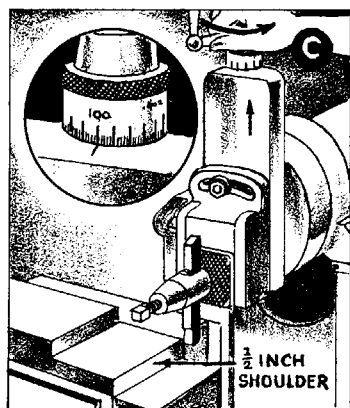

FIG. 71
Before using the micrometer dial for setting the tool for a certain cut, back lash must be taken out of the down-feed screw. One way to make certain that all back lash has been taken out is to first give the handle about a half turn in a direction opposite the proposed adjustment before setting the tool to the surface from which the depth of cut is to be measured with the graduated collar or dial. (Refer to Fig. 71 at (A).)
For subsequent cuts in the same direction, back lash will be of no further consequence. However, when the movement of the tool is reversed from a downward direction to an upward direction, the back lash must be taken up again before the tool will move up when the screw is turned. (Refer to Fig. 71 at (B).)